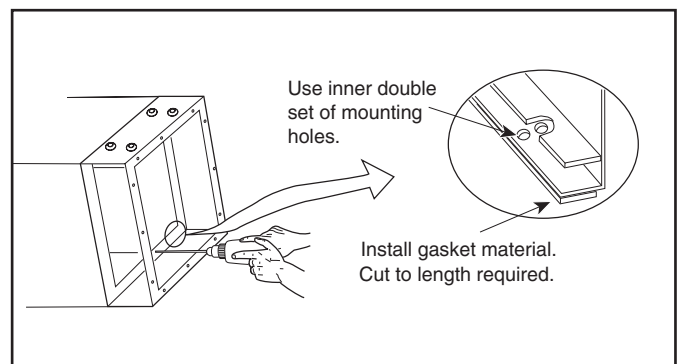

Figure 14 Installation Details
2. Install the self-adhesive gasket material on the side of the air cleaner cabinet flange that will mate with the indoor unit. This flange has a double set of holes. See Figure 14.
8. Securely fasten the unit using the self-tapping sheet metal screws provided. See Figures 14.
- Install the self-adhesive gasket material on the side of the air cleaner cabinet flange that will mate with the indoor unit. This flange has a double set of holes. See Figure 14.
8. Securely fasten the unit using the self-tapping sheet metal screws provided. See Figure 14.